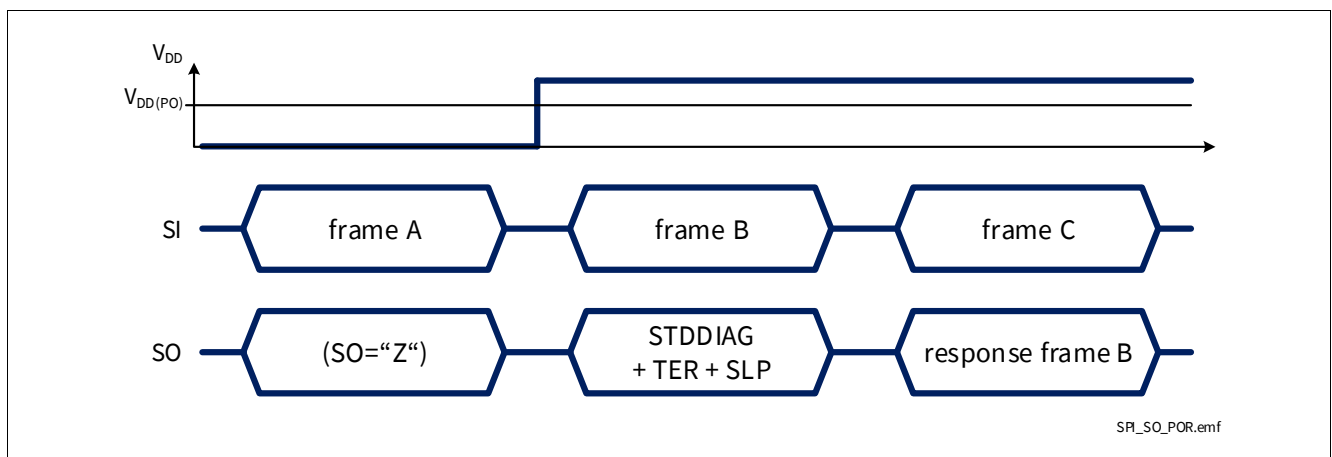

Figure 44 SPI response after coming out of Power-On reset at V_{DD}
- When BTS71033-6ESA digital supply comes out of Power-On reset condition, as shown in **Figure 44**